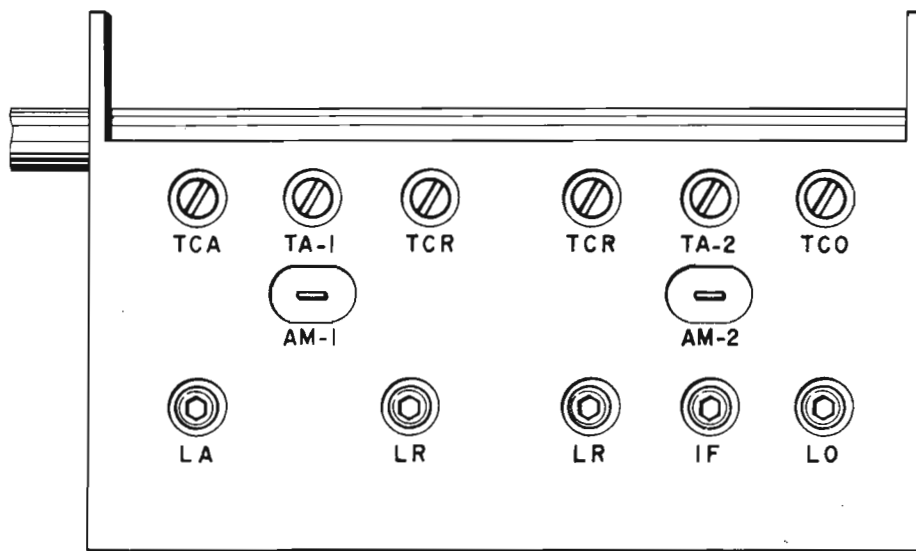

Fig. 25 Top View of Front End
3. FM RECEIVING FREQUENCY RANGE ADJUSTMENTS (See Figs. 25 and 26)
4. FM TUNER TRACKING ADJUSTMENTS (See Figs. 25 and 26)